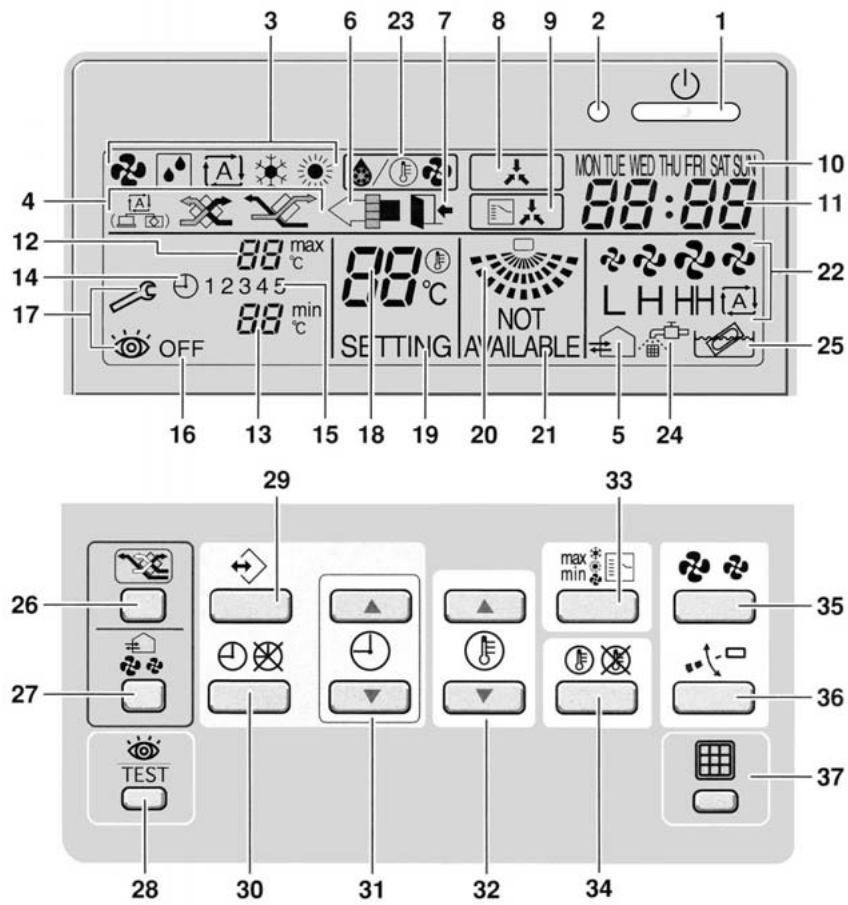

Figure 1
4. Ground the shield part of shielded wire or earth wire (only KJB311A(A)) as shown in the Fig. 1.
4.9.4 Name and Function of Switches and Icons (Refer to figure 1)
1. Remove the upper part of remote controller (Refer to figure 1)